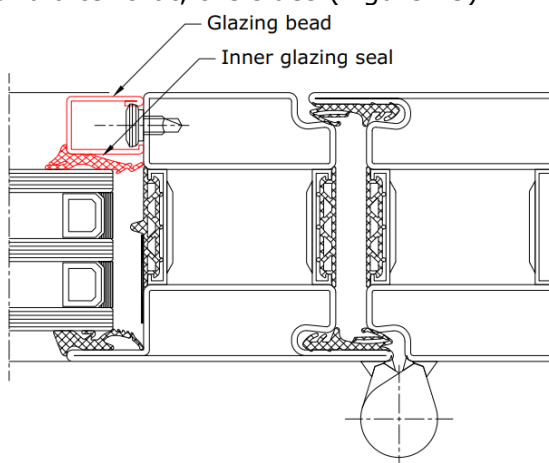

Figure 15 Glass installation
9. Install the glazing beads using rubber or plastic hammer. First install the top glazing bead, then the bottom and after that, the sides (Figure 15).